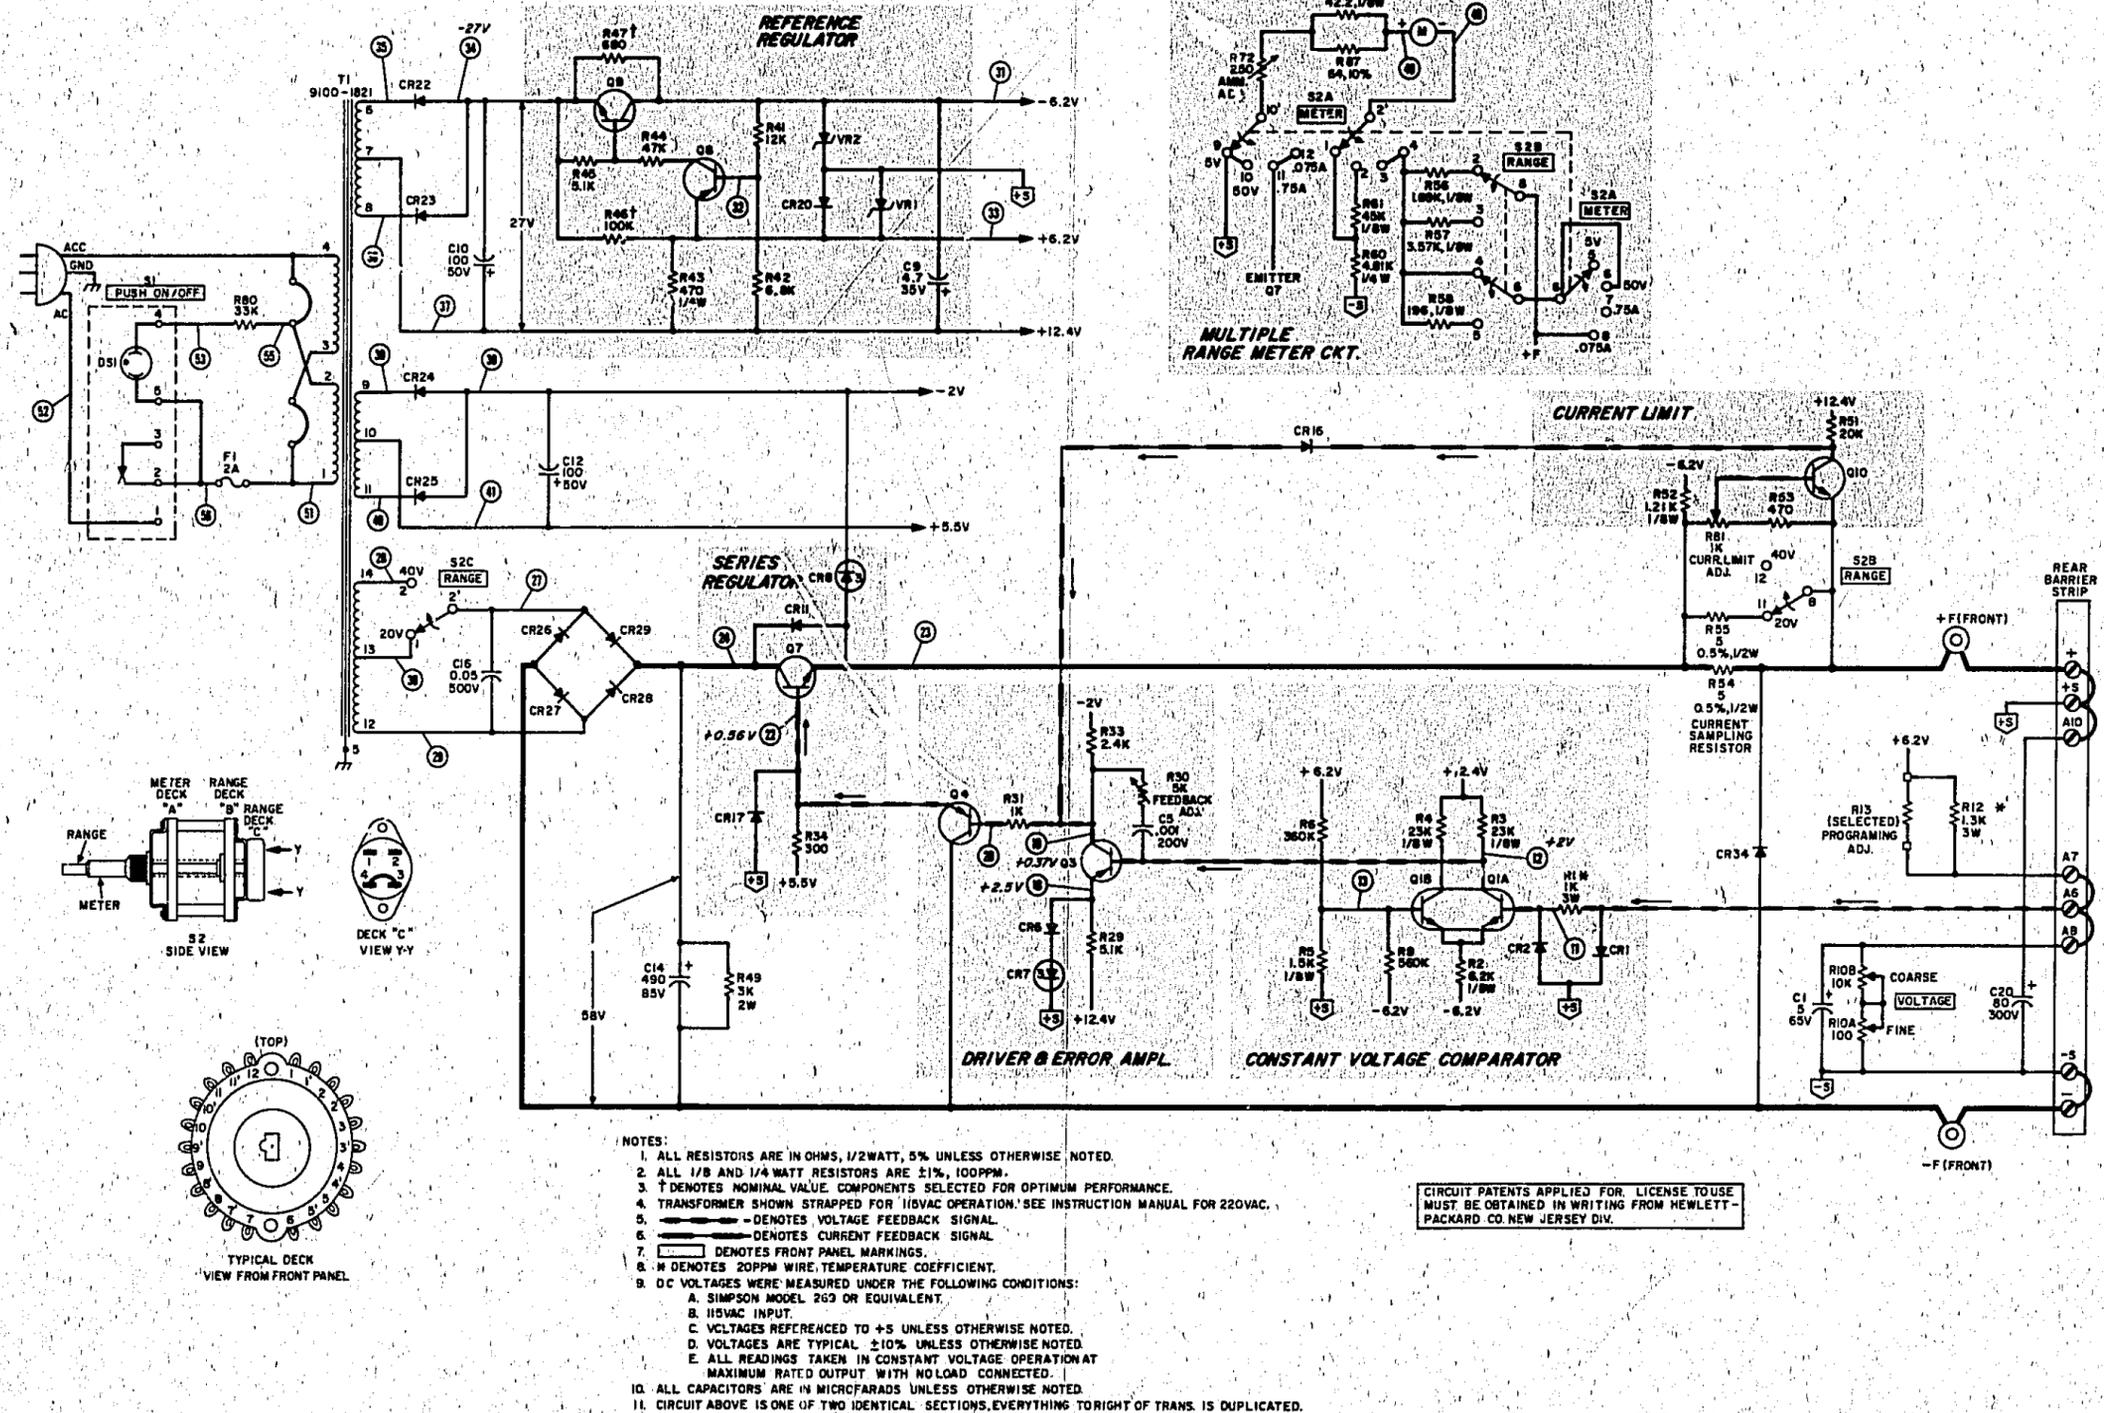

Figure 7-2. Schematic Diagram, Model 6205B
b. Schematic Diagram, Figure 7-2, which illustrates the circuitry for the entire power supply. Voltages are given adjacent to test points, identified by encircled numbers on the schematic and printed wiring board.